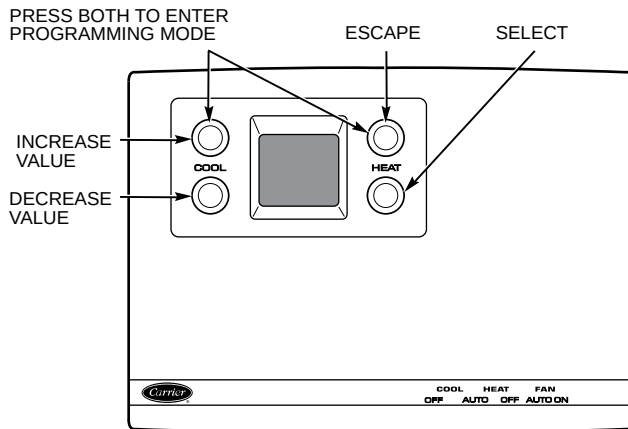

Fig. 2 — Programming Mode Buttons
1. Press both upper or lower set point buttons at the same time to enter into the program mode. The word “category” and the number 1 will be displayed. See Fig. 2 for programming mode button functions.